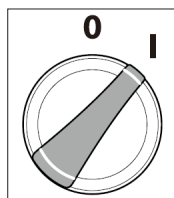

Fig.10
- Turn on the appliance by turning the "OFF/ON" switch to the "ON" position (Fig.10).